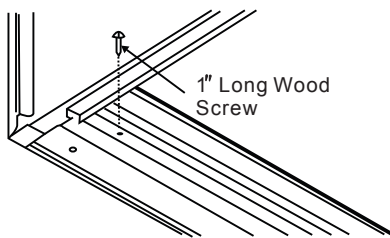

Fig.6
4. Secure bottom rail to wood frame with two large wood screws 1"(2.5cm) long using the two holes in the bottom of the channel resting on frame.(See Fig.6).